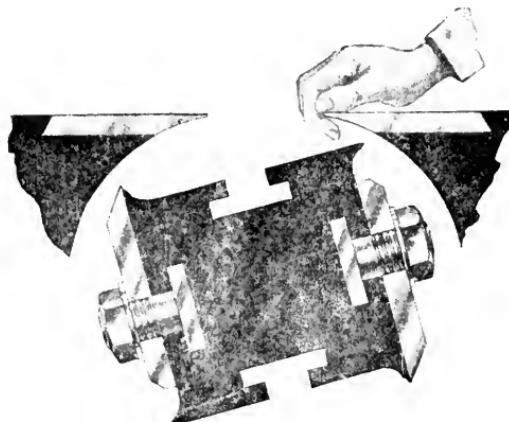
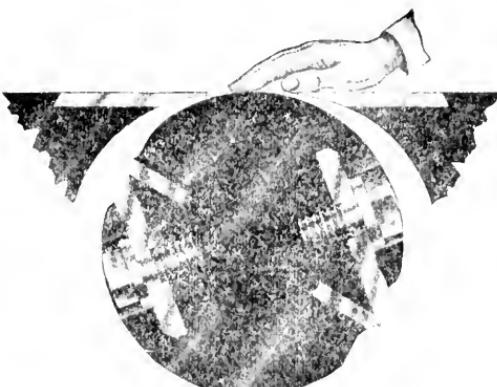

FIG. 4. - SQUARE HEAD.
FIG. 5—SAFETY HEAD
7. **THE HEAD--** Formerly all jointers were equipped with square heads, illustrated in Fig. 4, but these are so much more dangerous to the operator because of the fact that in case of accident one is apt to have an entire hand or at least most of the fingers of the hand drawn into the machine. This can be verified by comparing the larger opening, Fig. 4 with that of the circular head, Fig. 5. While it is still dangerous to the operator to get his fingers in the machine,
2. Use a guard at all times, except when dadoing. Good types are shown in Figs. 5 and 6.